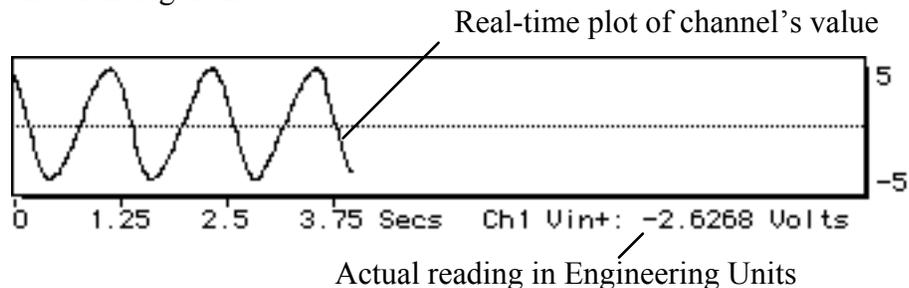

Figure 2.11 The Snapshot Display
The Probe dialog will open with the address of the channel you clicked on displayed in the Network Address. Additionally, the real-time value of the channel, in Engineering Units (EU) will appear at the bottom of the display, as shown in Figure 2.11.